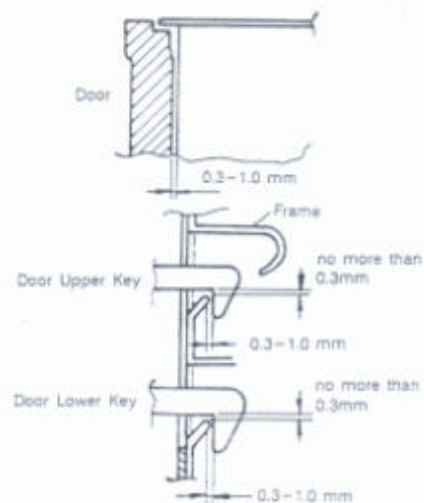

Fig. 11.2
- When mounting the frame assembly to the oven assembly, adjust the frame assembly by moving it in the direction of arrow in Fig. 11.2 so that the oven door will not have any vacancy in it. Check for vacancy in the door by pulling the door assembly. Make sure that the latch key moves smoothly after adjustment is completed. Completely tighten the screws holding the frame assembly to the oven assembly.